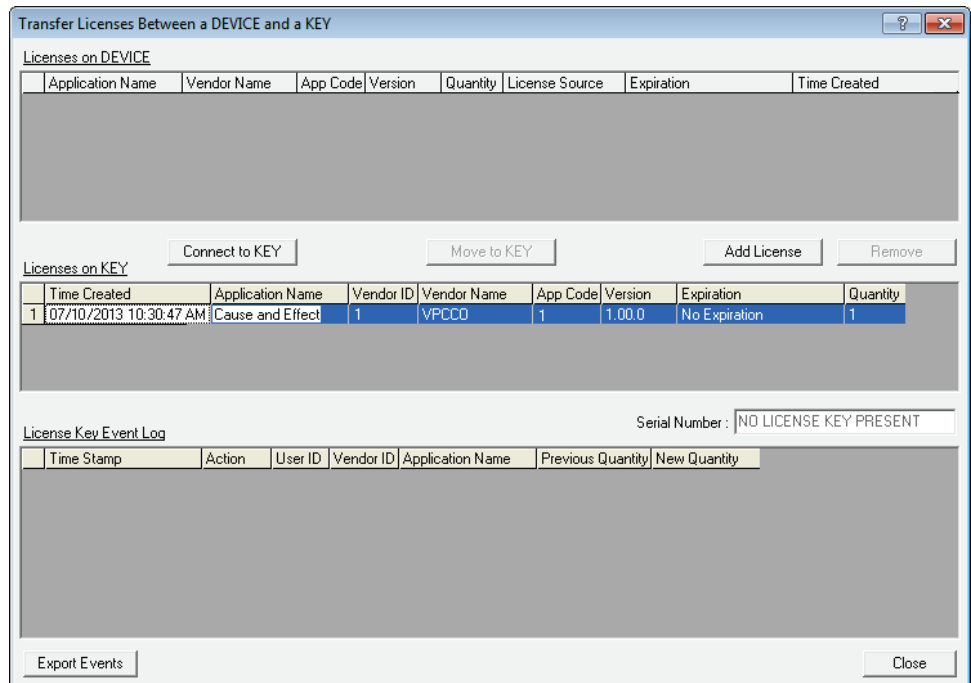

Figure 1. Transfer Licenses Between a Device and a Key
3. Select the key-based license you want to transfer to the FB107 (Cause and Effect, as shown in *Figure 1*).